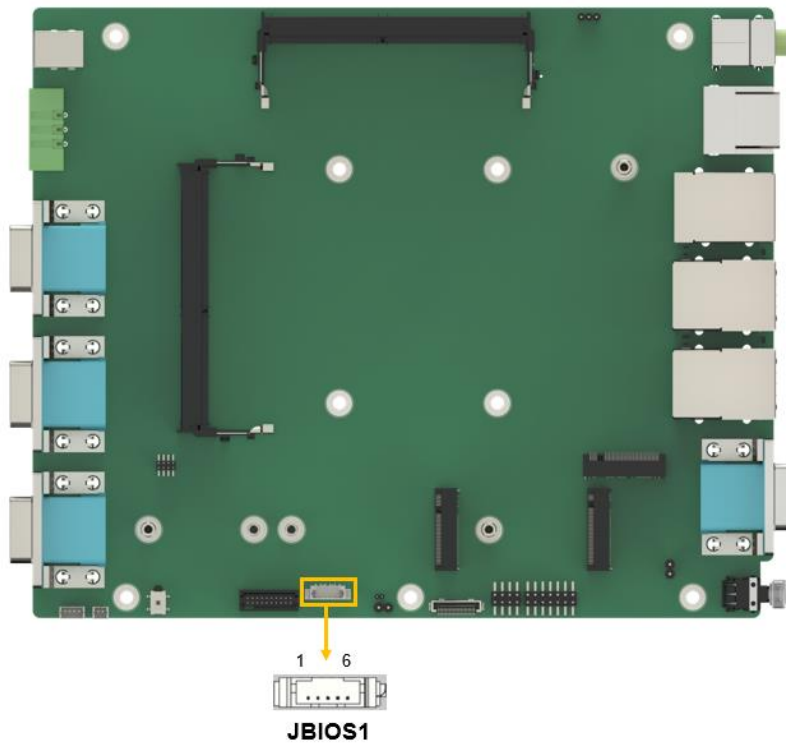

Figure 4-11: Flash SPI ROM Connector Location
- CN Location:** See **Figure 4-11**